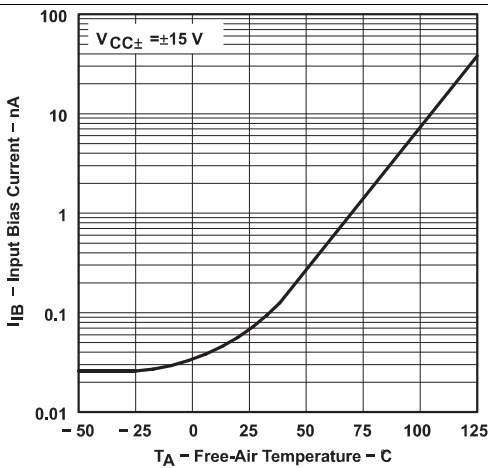

Figure 13. Input Bias Current vs Free-Air Temperature
- (1) All characteristics are measured under open-loop conditions with zero common-mode voltage, unless otherwise specified. Full range for T_A is 0°C to 70°C for TL08_C, TL08_AC, TL08_BC and -40°C to 85°C for TL08_I.
- (2) Input bias currents of an FET-input operational amplifier are normal junction reverse currents, which are temperature sensitive, as shown in Figure 13. Pulse techniques must be used that maintain the junction temperature as close to the ambient temperature as possible.
(1) All characteristics are measured under open-loop conditions, with zero common-mode input voltage, unless otherwise specified.
(2) Input bias currents of a FET-input operational amplifier are normal junction reverse currents, which are temperature sensitive, as shown in Figure 13. Pulse techniques must be used that maintain the junction temperatures as close to the ambient temperature as possible.